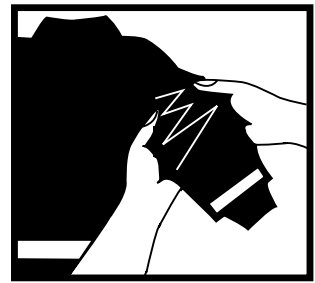

FIG. 3
- c. Grasp any part of the fabric that may be damaged or flawed in both hands and try to push your thumbs through the fabric. **(FIG. 3)**. If the fabric punctures, you must repair the outer shell (if economically practical), replace it or retire the entire Garment and dispose of it in accordance with Sections 15 and 16 of this Guide.